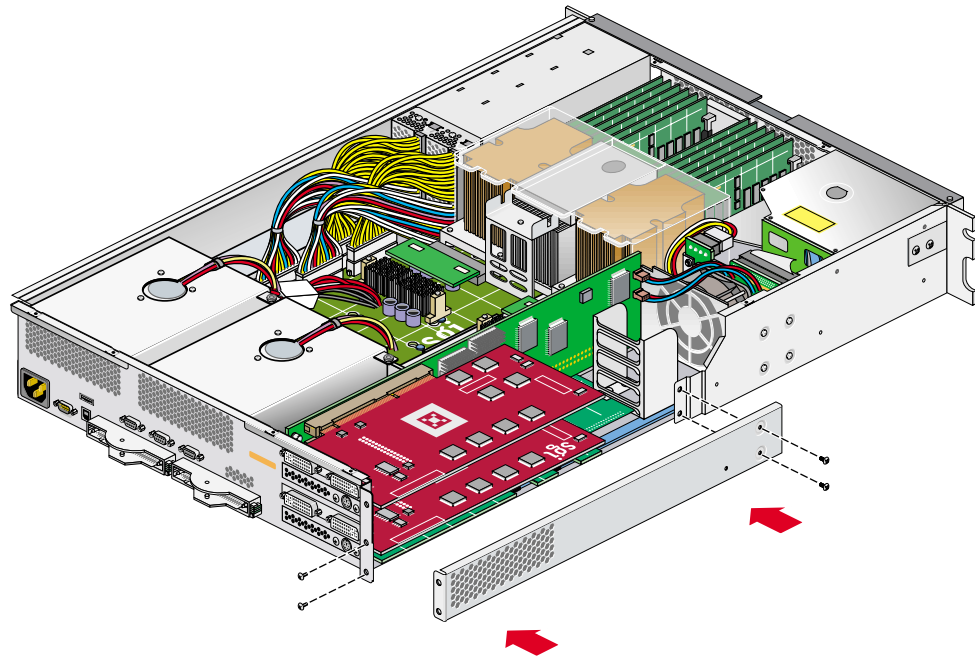

Figure 3-22 Replacing the PCI/PCI-X Support Bracket
4. Replace the lower PCI/PCI-X support bracket and screw in the four Phillips screws, as shown in Figure 3-22.